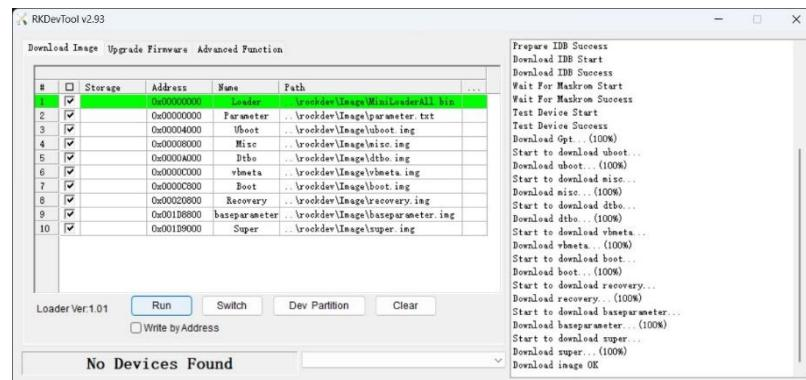

Figure 3-16: Software Screen (3)
Step 5: After the burning is completed, the device will exit from the software, and the AFL4-W07-RK3566 product will automatically reboot into the new OS (**Figure 3-16**).